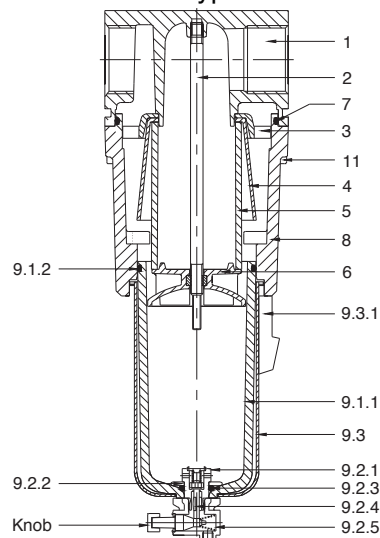

Fig. 3
1. For draining the condensate water collected in the bowl (9.1.1), press the knob of the Drain valve (see fig.3).